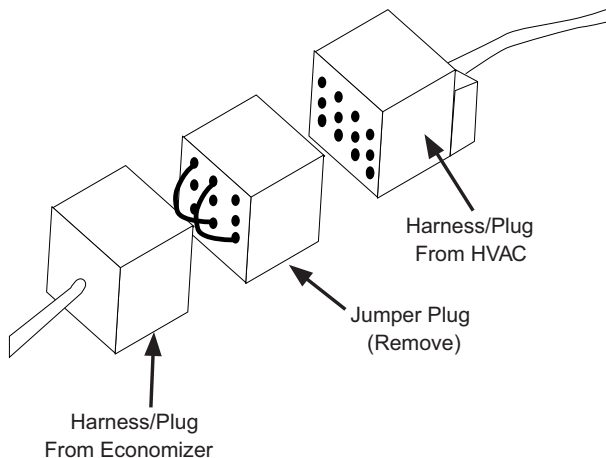

Fig. 7 — Harness and Jumper Plug
8. Before the economizer is secured in place on the right hand side, remove and save the 12-pin jumper plug from the unit wiring harness. Insert the economizer plug into the unit wiring harness plug. (See Fig. 7.)
8. Before the economizer is secured in place on the right hand side, remove and save the 12-pin jumper plug from the unit wiring harness. Insert the EconoMiSer X plug into the unit wiring harness plug. (See Fig. 7.)